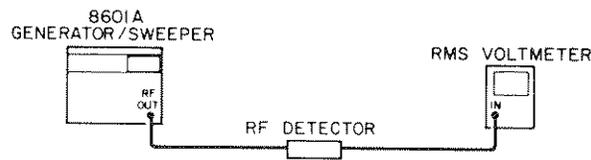

Figure 4-8. Residual AM Test Setup
1. Connect equipment as shown in Figure 4-8.